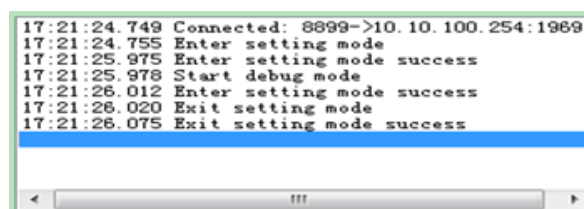

Figure 3.10: Prompt of access setting status successfully is displayed in status display column
(8) Prompt of setting successfully will be displayed in the status display column (bar) area, as shown in figure 3.10